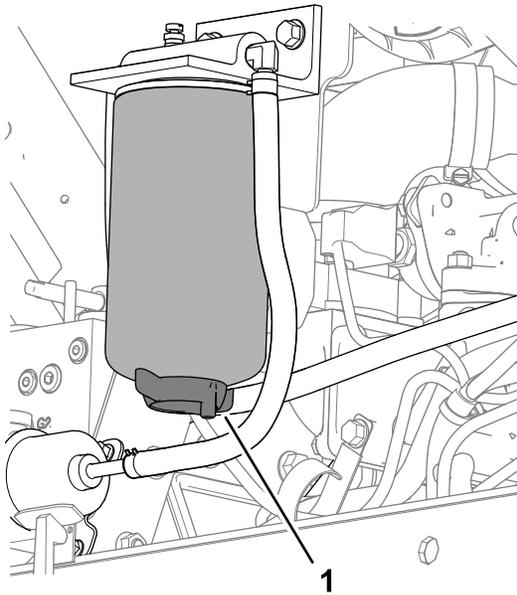

Figure 80
3. Place a drain pan under the fuel-water separator filter (Figure 80).